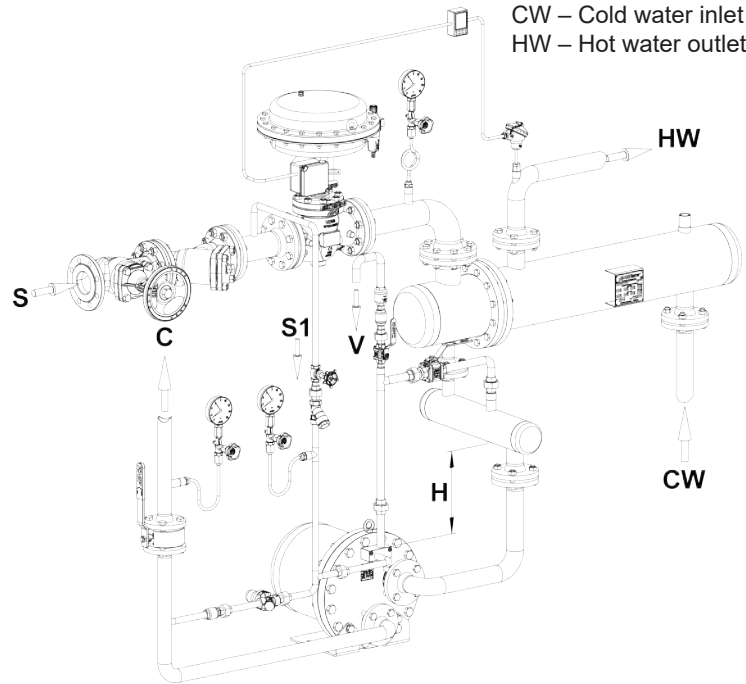

Fig.1
Remark: Filling head "H" is shown in Fig. 1.
7. Installation head available “H” (see Fig. 1) in mm or any other dimension that allows its determination.